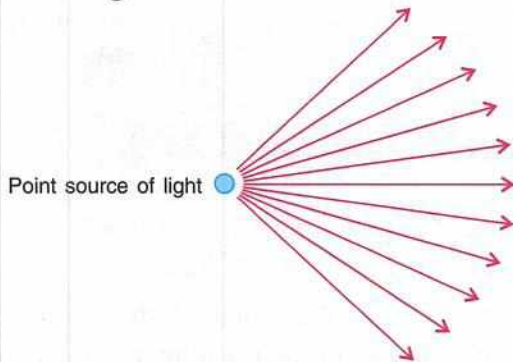

Fig. 5.7 A beam of light from a point source of light
A group of light rays given out from a source is called a **beam of light**. Fig. 5.7 shows a beam of light given out from a point source of light.
- (b) The beam of light given out from a point source at a finite distance spreads out in different directions (*i.e.* it diverges) as shown in Fig. 5.7. It is called a divergent beam of light.